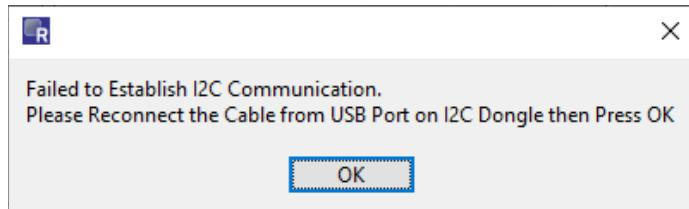

**Figure 5. HID USB-I2C Interface Board**
- A green LED turns ON in the HID USB-I2C interface board when the communication between the computer and the HID USB-I2C interface board is established (see Figure 5):